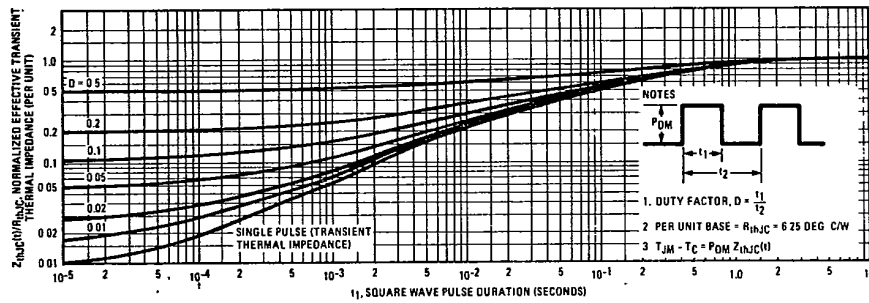

Fig. 5 - Maximum Effective Transient Thermal Impedance, Junction-to-Case Vs. Pulse Duration
① T_J = 25°C to 150°C. ② Pulse Test: Pulse width < 300μs. Duty Cycle < 2%. ③ Repetitive Rating: Pulse width limited by max. junction temperature. See Transient Thermal Impedance Curve (Fig. 5).